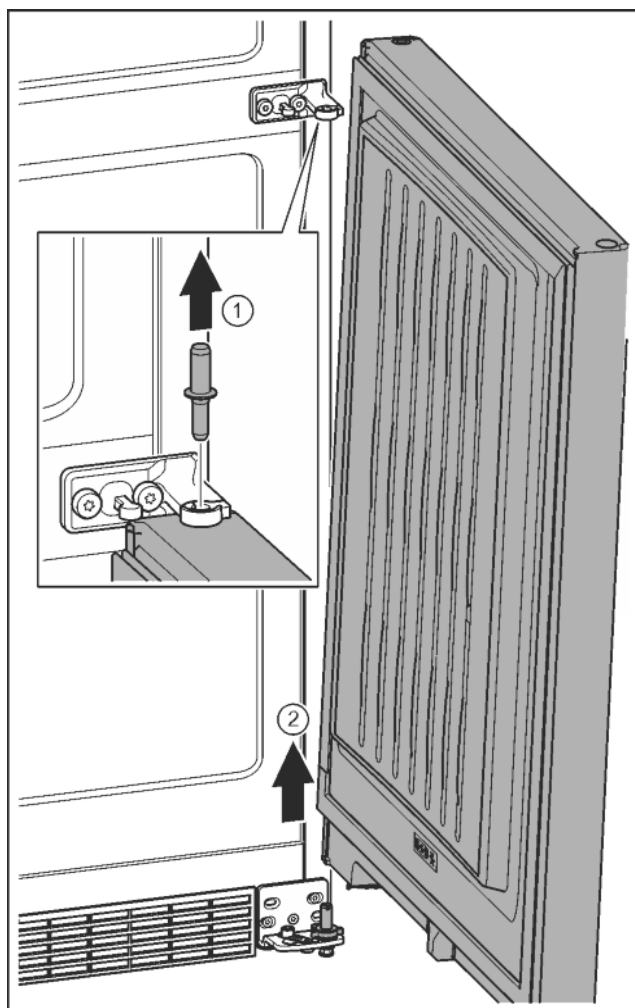

Fig. 12
- ▶ Pull out the bolts towards the top. *Fig. 12 (1)*
- ▶ Swing the door out, pull it upwards and set it aside. *Fig. 12 (2)*